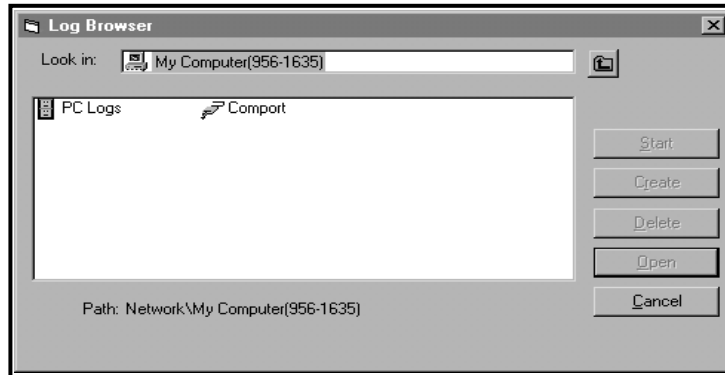

Figure 15: Log Type Selection
2. Double click on the *computer name* to advance to the dialog box shown in Figure 15 on page 58.